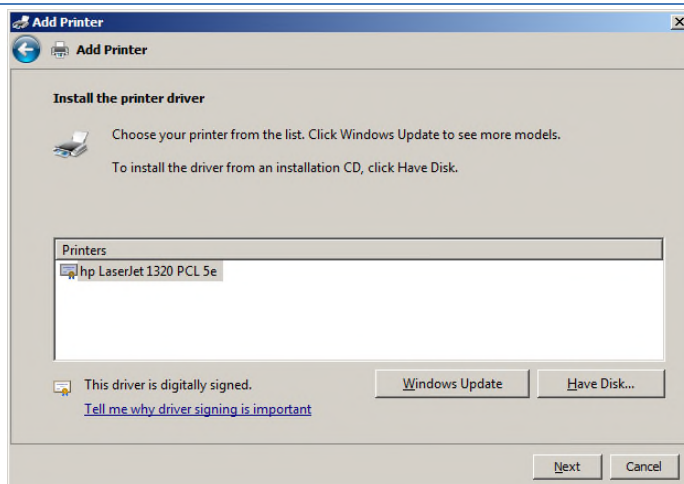

Figure 10.23 – Install specific driver from location
12) You may see a window that asks if you would like to share the printer. Do not share the printer! and select **Next**. See Figure 10.23.